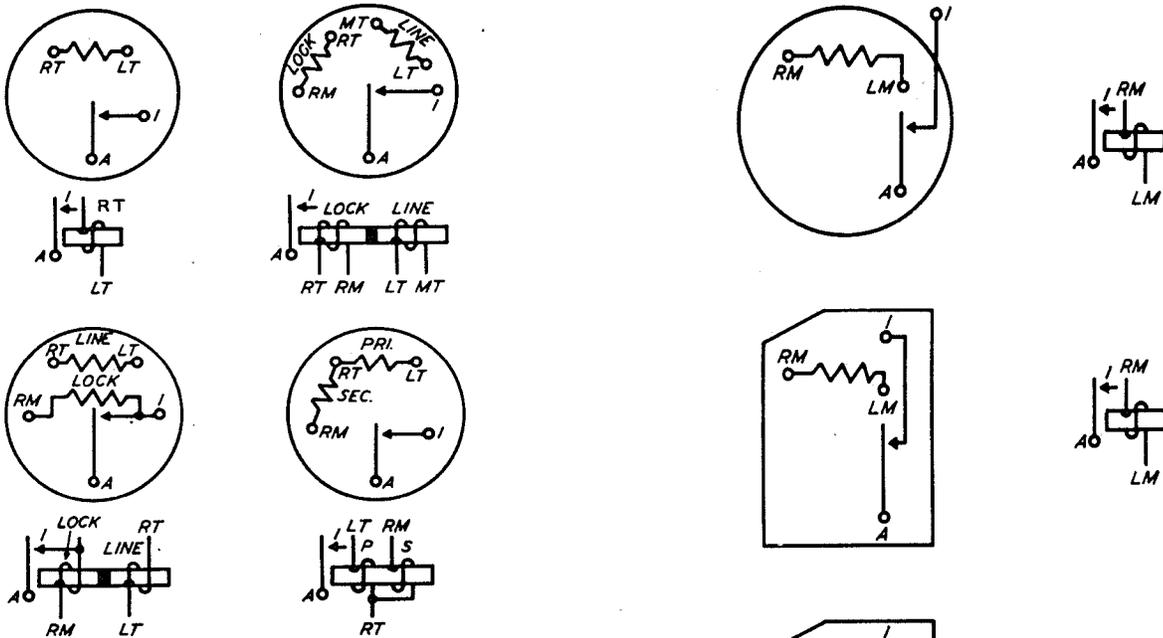

FIG.12-WINDING AND SPRING TERMINAL ARRANGEMENT AS VIEWED FROM THE REAR (TERMINAL SIDE)-89,101,105, 108,118 AND 172 TYPE RELAYS
2.32 The winding and contact terminal numbering is the same as covered in 2.33. These relays are, however, always mounted as shown in Figs. 12, 13, 14, and 15 below.